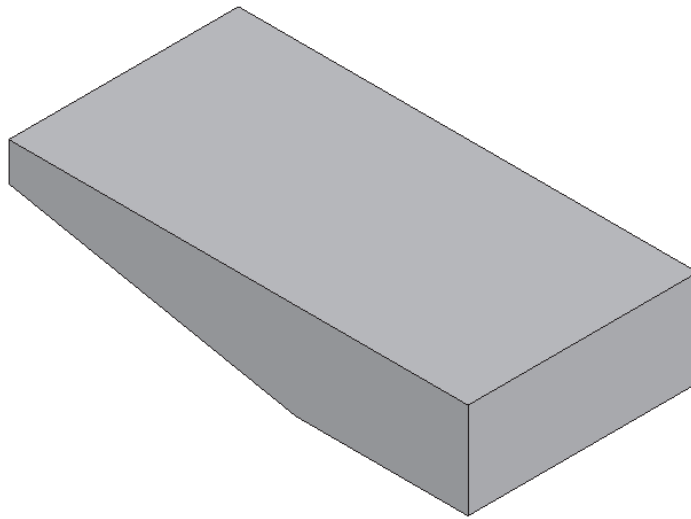

Figure 7-57 Base feature of the model
- a. Start Solid Edge in the **Part** environment. Create the base feature on the front plane, refer to Figure 7-57.
2. Create the profile of the base feature and extrude it symmetrically. The base feature of the model is shown in Figure 7-57.